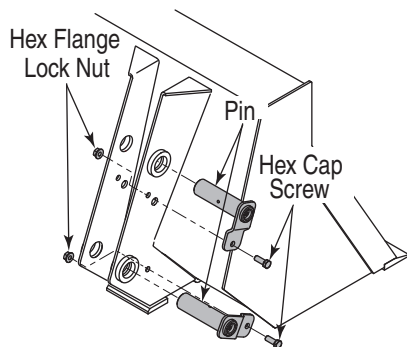

Figure 5
- Remove the four pins (two on the left and two on the right) from the rear mounting brackets of the bucket by removing the hex flange lock nuts and screws, and withdrawing the pins from the brackets. See Figure 5.